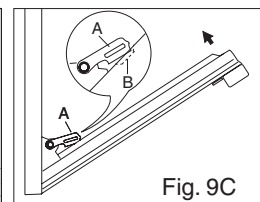

Fig. 9C
- shut the oven door slowly until it reaches hooks "A", making sure these are locked into slots "B" of the oven door, as shown in fig. 9C.